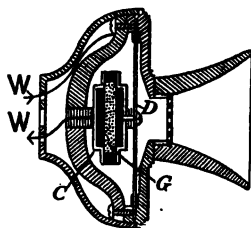

FIG. 268.—Carbon transmitter.
**311. The telephone transmitter.** The modern “solid back” telephone transmitter is simply a carefully designed microphone. It contains a little box *C* (Fig. 268) which is filled with granules of hard carbon. The front and the back of the box are polished plates of carbon, and the sides of the box are insulators. The front carbon is attached to the center of the diaphragm *D*, and moves in and out a little when the diaphragm vibrates. The other plate is fastened